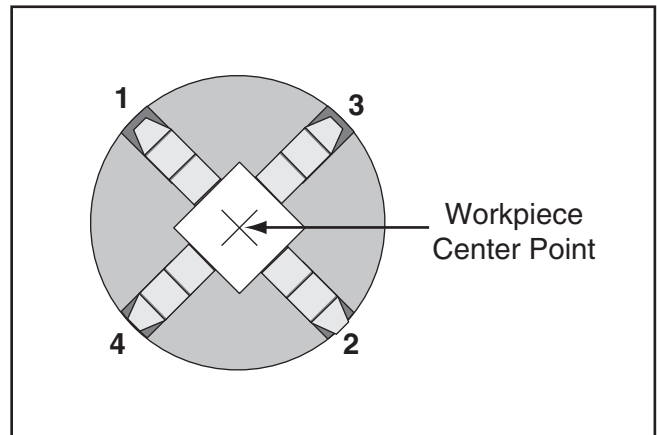

Figure 30. 4-jaw tightening sequence.
5. Tighten each jaw in small increments. After you have adjusted the first jaw, continue tightening the remaining jaws in an opposing sequence, as shown by the sequential order in **Figure 30**.